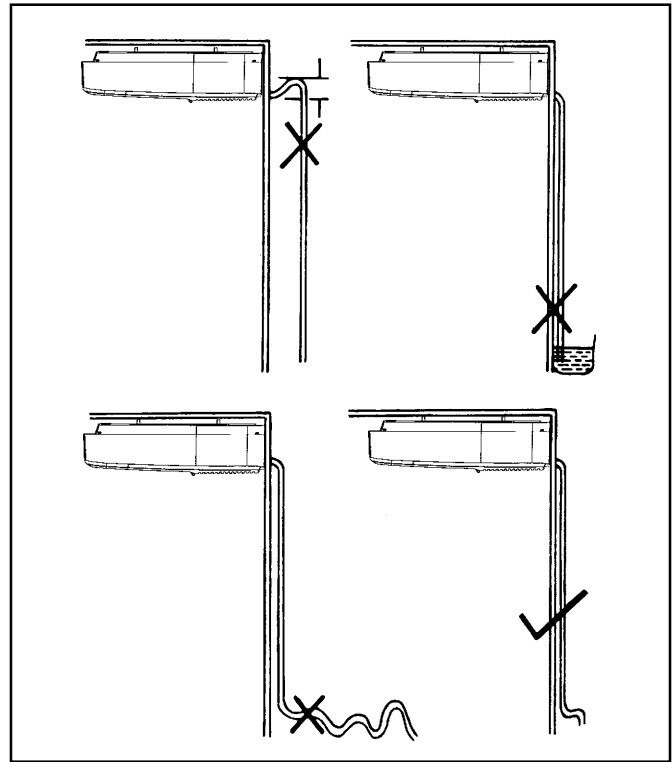

FIGURE 9 - INEFFECTIVE DRAINING SCENARIO
- The unit uses drain by gravity. The drain pipes should have declivity, though. Avoid scenarios like the ones indicated on Fig. 9.